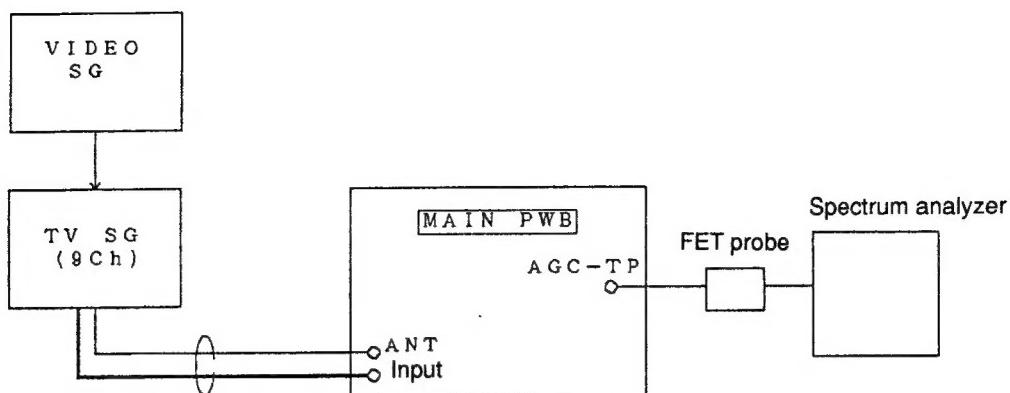

Fig.4
(1) Prepare and connect the measuring instrument as shown in Fig. 4.
(2) Connect the tuner pack output to the IF input with the test pattern.
(3) TV SG setting